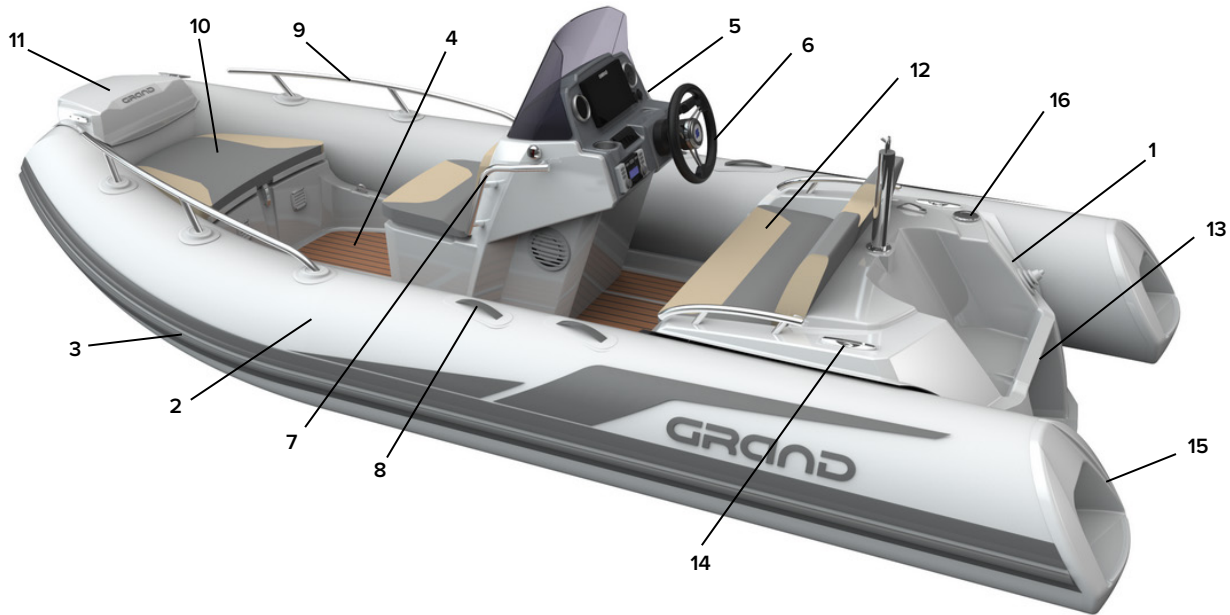

Fig. 36. General arrangement of a boat.
***General arrangement of a boat*** (see fig. 36 on the previous page):